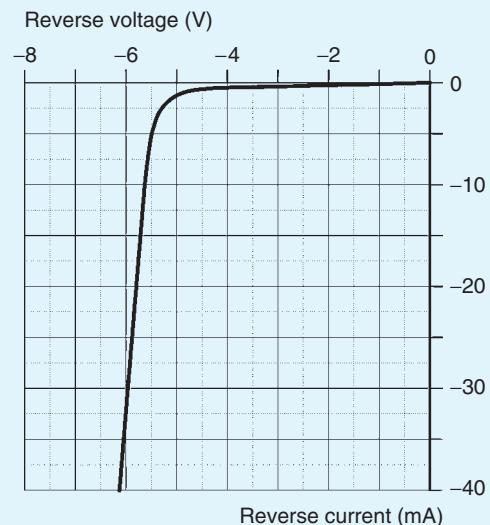

Figure 11.21
- The graph shown in Fig. 11.21 was obtained during an experiment on a Zener diode.